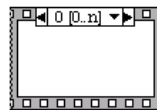

FIGURE 11 - STACKED SEQUENCE
To start with, a *Stacked Sequence* structure has to be positioned as shown in Figure 11, with the aim of separating the first initialization step (1 & 2) (which is only required for the first simulation) from the rest of the diagram (3).